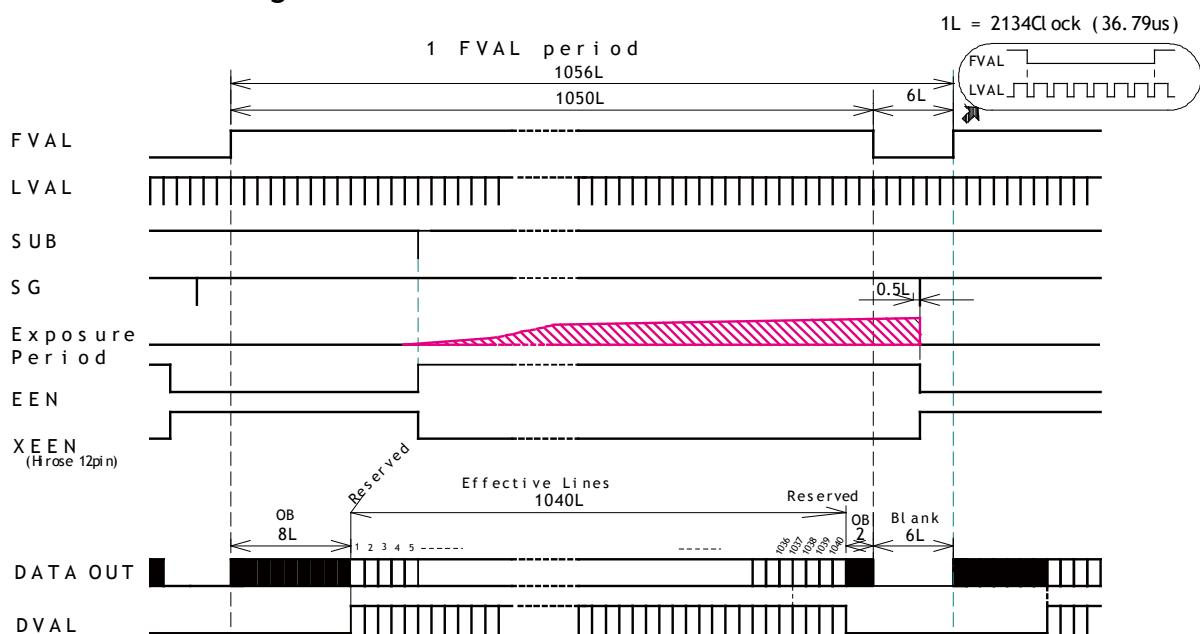
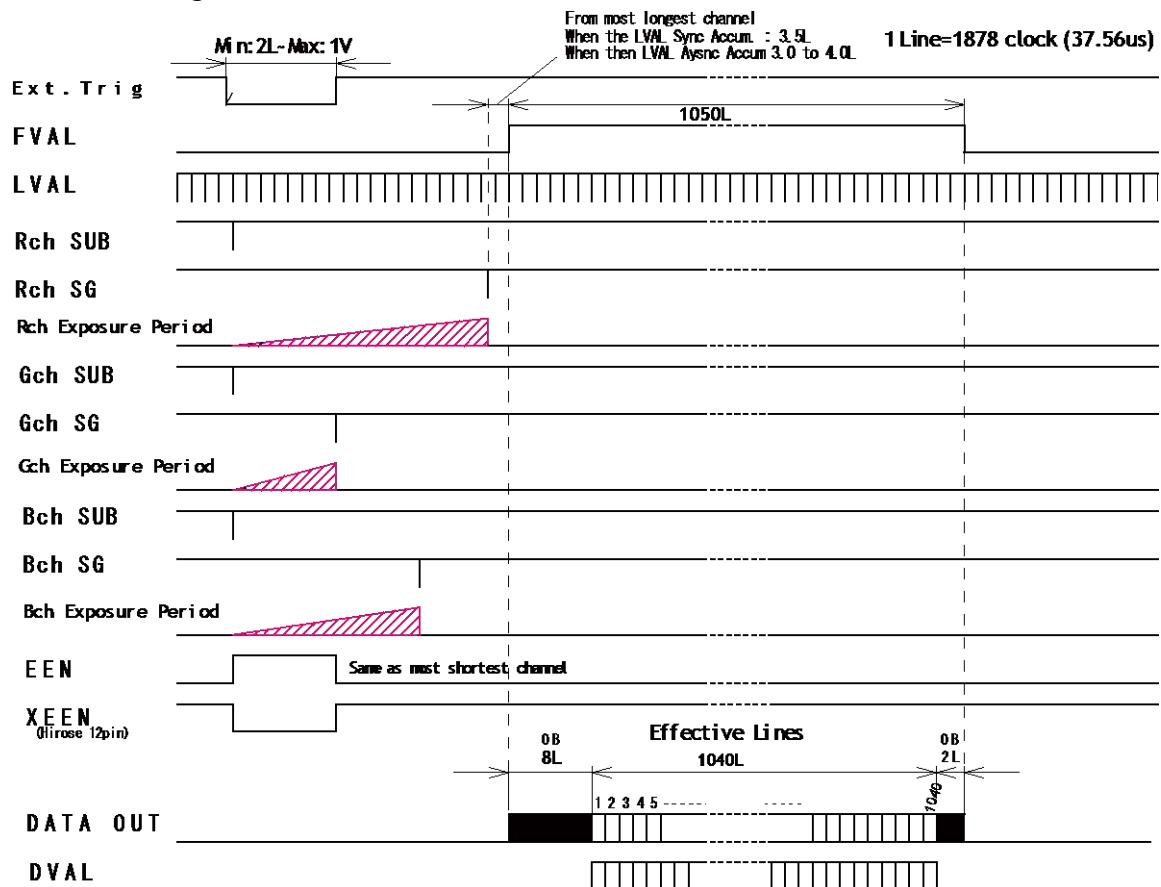
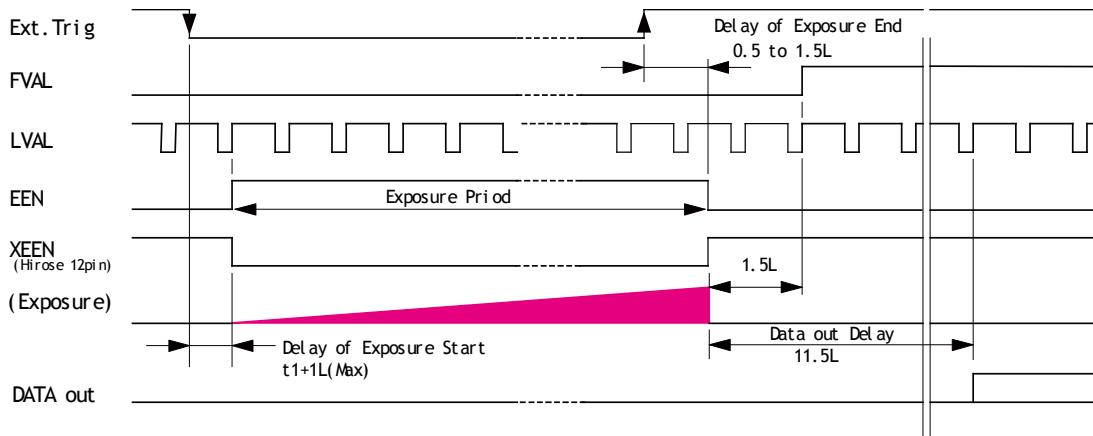
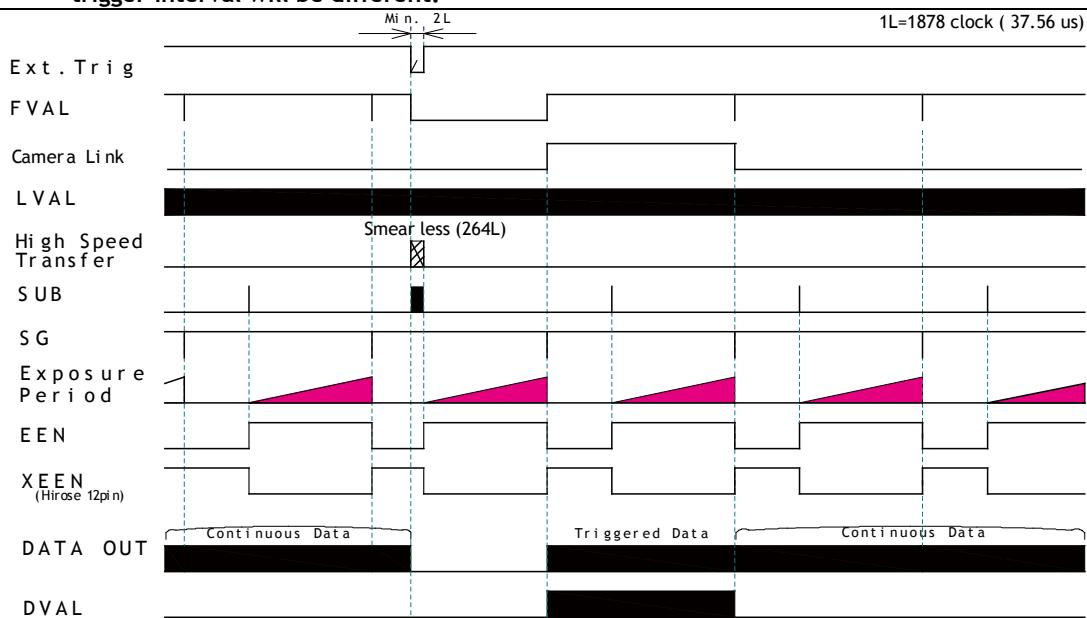

Fig. 27. Vertical timing for full scan
Fig.32. Edge Pre-select.
Fig.36 Pulse Width Control LVAL SYNC details
Fig.38 RCT mode
*For timing details, refer to fig.27 through fig.32 . and fig.36 through fig.38 .*